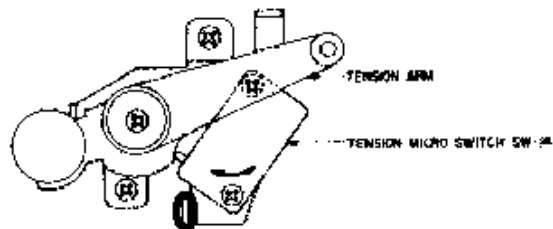

Fig. 9
17. OPERATING POSITION ADJUSTMENT OF TENSION MICROSWITCH SW-14 (Refer to Fig. 9)